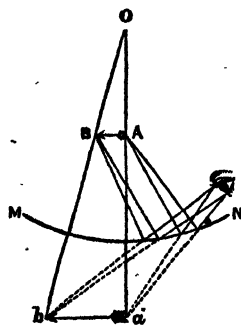

FIG. 9.
3. When the mirror is concave (Fig. 9), and the object, $A B$, placed between the principal focus and the mirror, the image, $a b$, is virtual, erect, and enlarged in the proportion of $b O$ to $B O$.